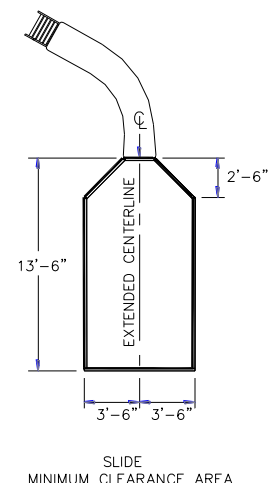

Figure 18
- 2) A minimum clearance area in front of the slide shall be maintained away from the coping, another slide, a diving board or a rope and float line. (See Figure 18)
The minimum clearance distance on either side of the extended centerline of the slide runway shall not be less than three feet six inches (3'-6") (1067 mm) at a point no less than two feet six inches (2'-6") (762 mm) from the exit of the slide and extending a distance of thirteen feet six inches (13'-6") (1445 mm) in front of the slide. (See Figure 18)